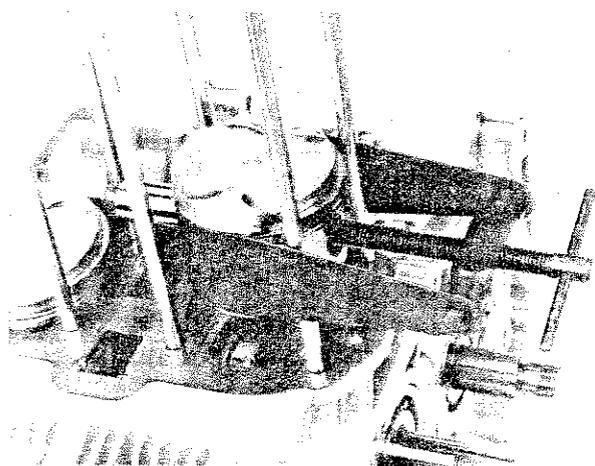

Fig. 58
- 7) Estrarre gli spinotti con l'apposito attrezzo e togliere i pistoni (Fig. 58).
- 7) Push out the gudgeon pins using the special tool and remove the pistons (Fig. 58). Generally it is advisable to not remove the gudgeon pin completely from the piston, but just to drive it out the amount needed to remove the piston from the con-rod.
- 7) Push out the gudgeon pins using the special tool and remove the pistons (Fig. 58).